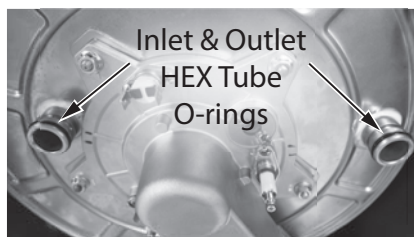

Figure 153 - Install new O-rings
52 Locate the two (2) O-rings provided in the kit. Install O-rings to the inlet and outlet HEX tube connections as shown in Figure 153.